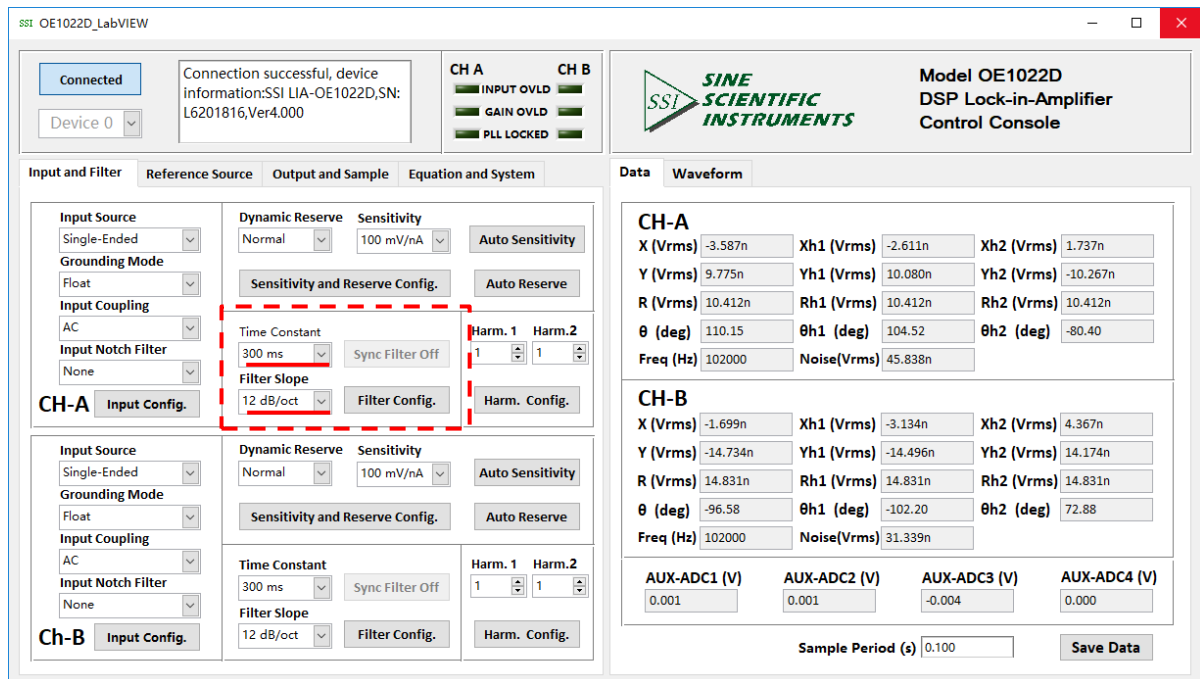

Fig.76 Filter Configuration
2. As shown in Fig.76, select suitable options for 'Time Constant' and 'Filter Slope' as required. Leave other options as initial state for now. Click the button Filter Config. to finish the configurations.
in Fig.76. Click the button **Reference Config.** to finish the configurations.